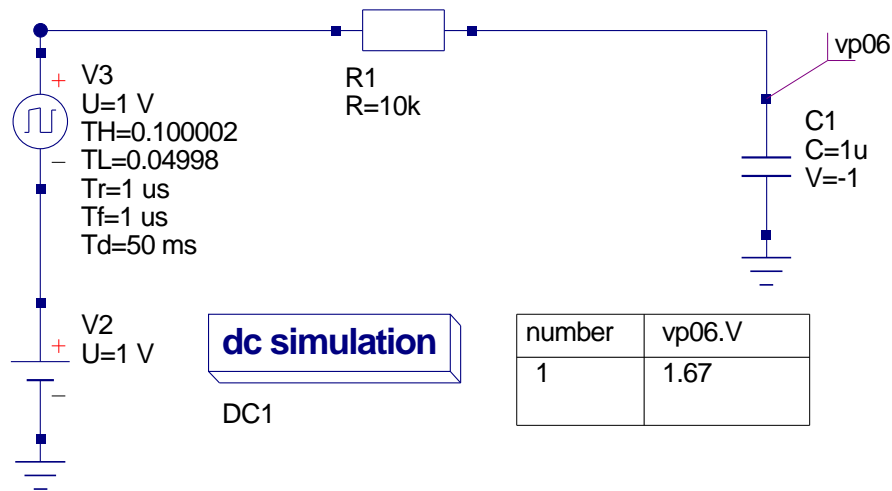

Figure 7: March 25: DC simulation showing 0.6667V offset
- SPICE independent voltage sources with DC, AC and transient elements appear to be handled differently by SPICE and Qucs. In a SPICE DC operating point simulation, time domain sources have their DC values set to their value at simulation time equal to zero seconds. However, for time domain pulse source Qucs finds the DC level by integrating it's waveform over one signal cycle. This results in a DC value of 0.6667V, yielding the DC offset recorded in the original test. In Qucs a generator is added to the Qucs netlist for each of the elements specified in the original SPICE voltage source entry. Hence, it is possible to have upto three voltage sources in series. Figure 7 illustrates that the DC offset occurs from a pulse generator placed in series with a DC source on a schematic.